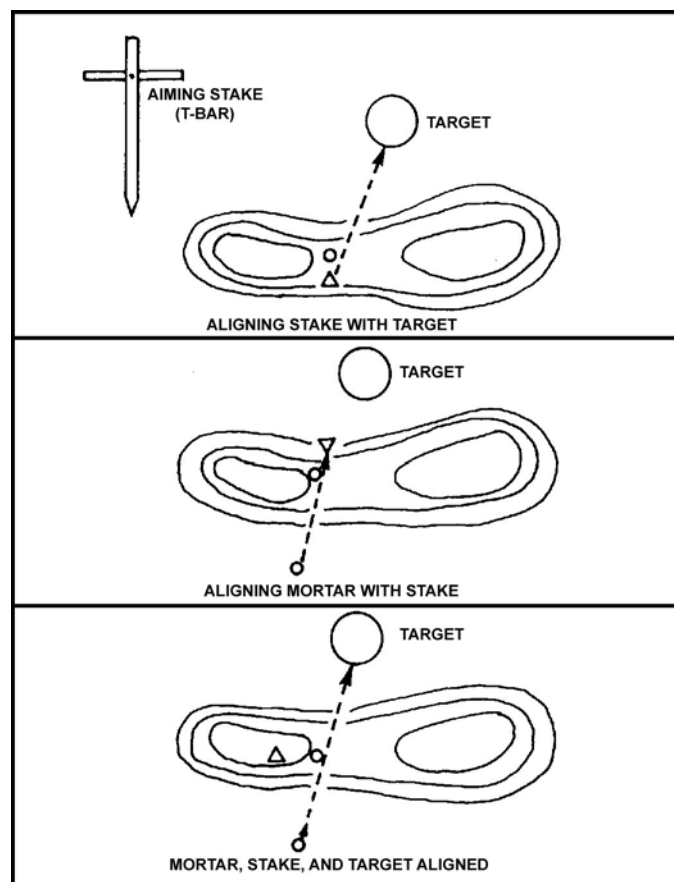

Figure 1. Direct-Alignment Method
- a. When using the direct-alignment method, the squad leader acts as the forward observer (FO) for the squad.
- b. To use the direct-alignment method, the squad leader must select a target within his area of responsibility and a position for the mortar that can be seen from his FO position (Figure 1).
- d. In aligning the mortar and the target, the squad leader can use an aiming post for the alignment point. However, the best and most accurate method is to use an aiming stake with a crossarm (T-bar) on it (Figure 1).